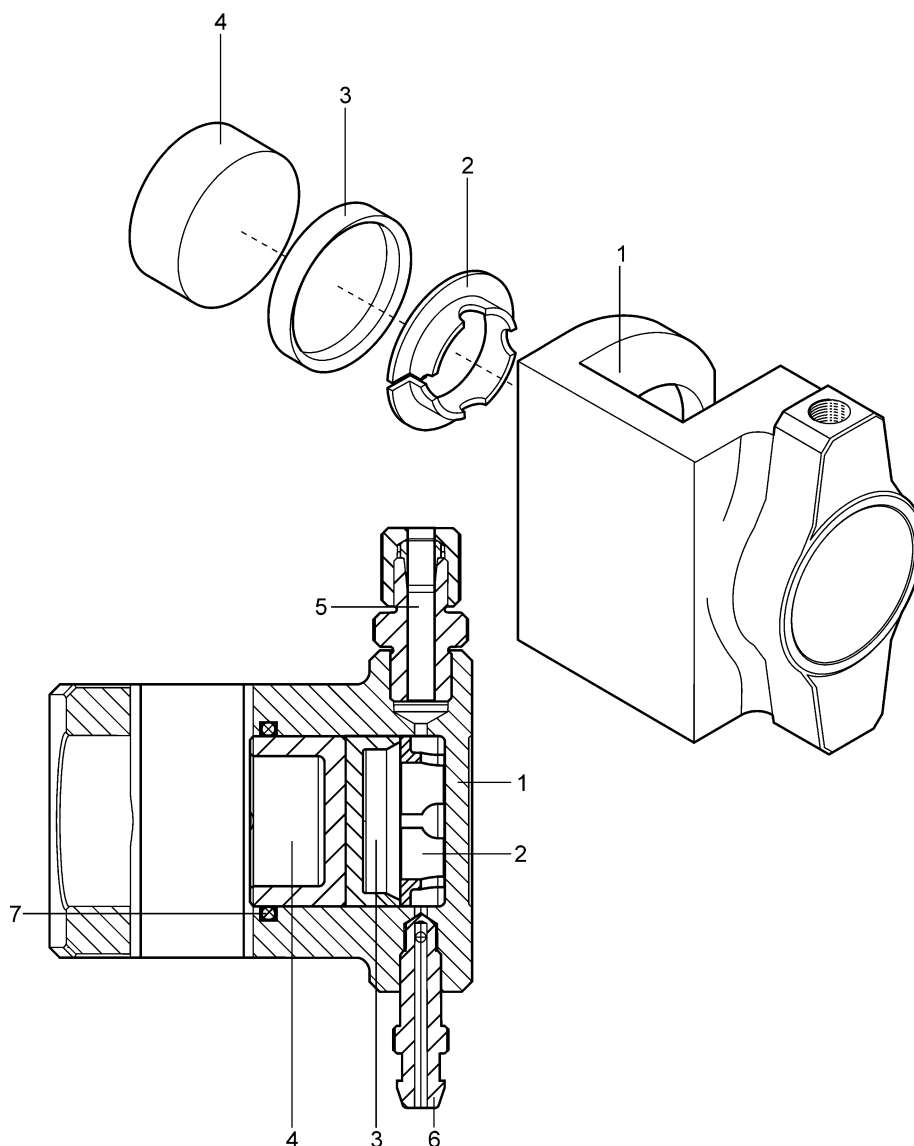

Fig. 2 –Installation of brake caliper cuff stop.
- 1.3.2.2 Insert the correctly oriented cuff stop (2, Fig. 2) and push it all the way to the bottom of brake caliper (1).
Legend to Fig. 2